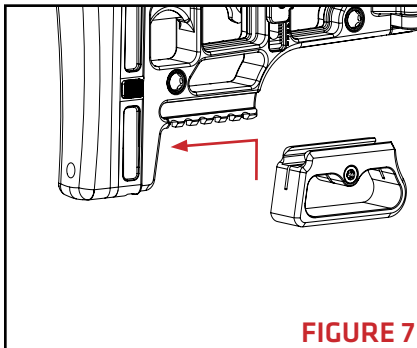

FIGURE 7
2. Slide the bag rider onto the folding stock rail (**FIGURE 7**).